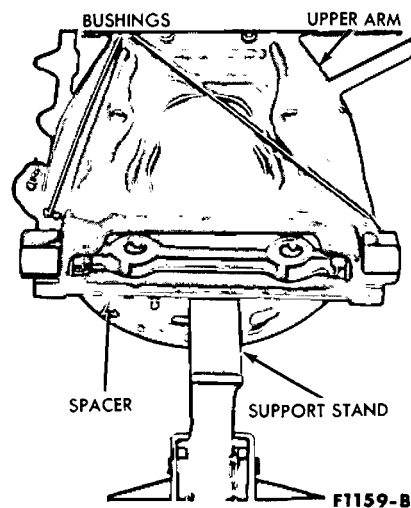

FIG. 7—Torque Upper Arm Inner Shaft Bushings—Typical
11. Position the spacer parallel with the inner shaft, and force the spacer between the flanges of the upper arm (Fig. 7).